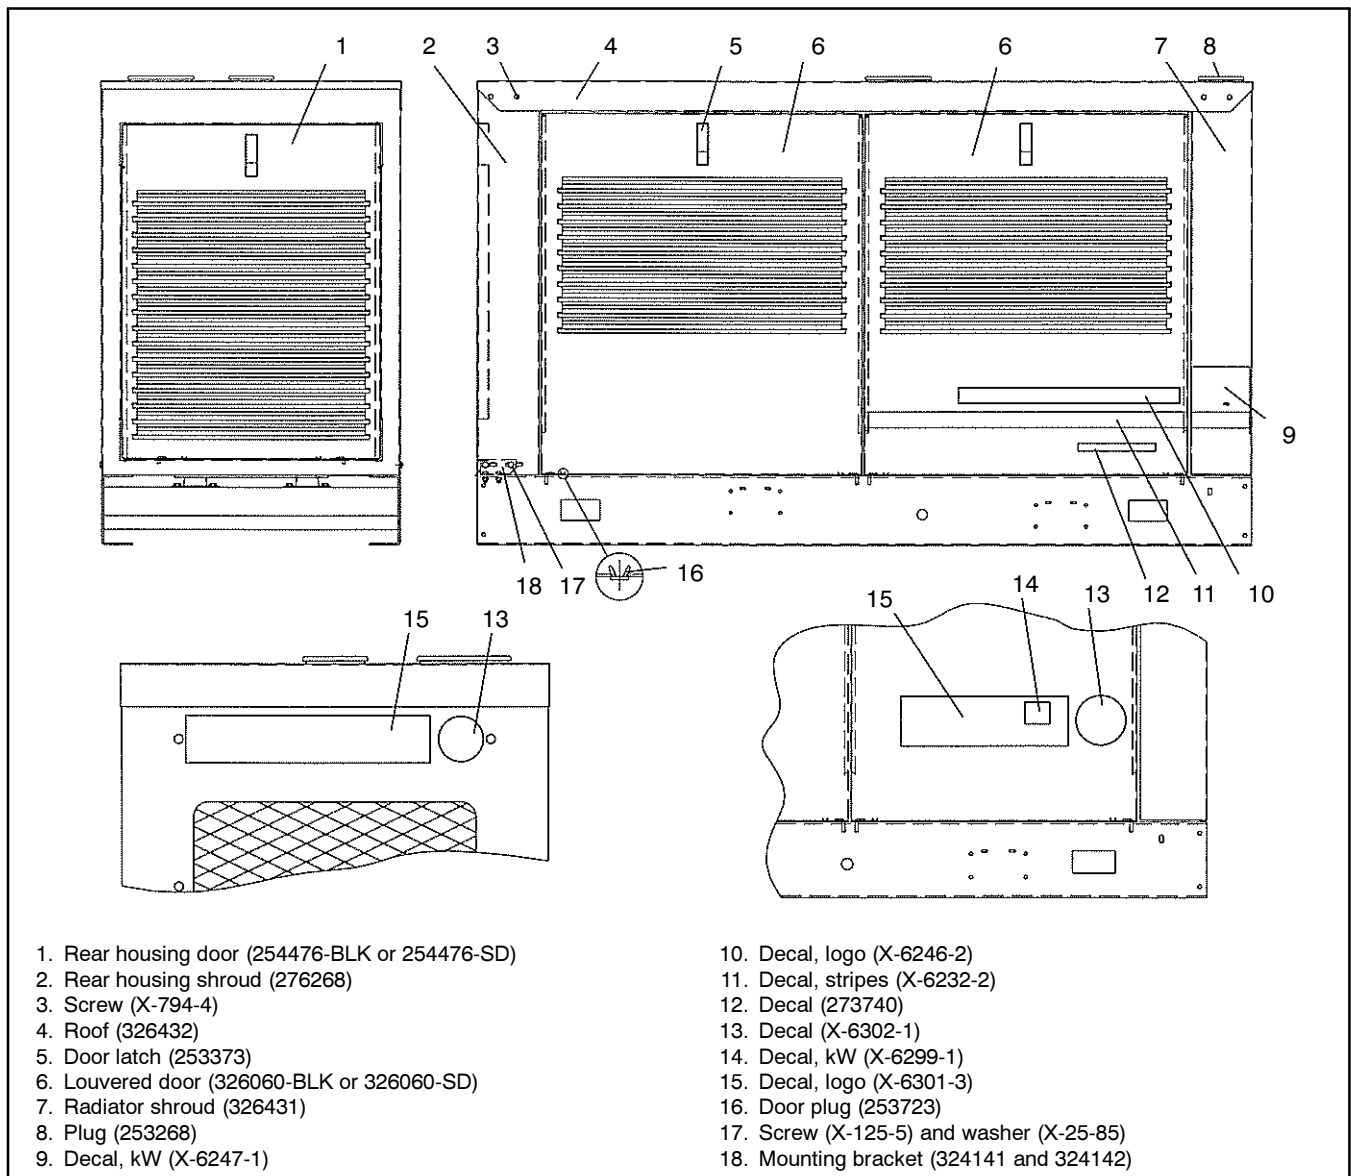

Figure 1 Weather Housing Assembly
4. Refer to the assembly drawing in Figure 1 to identify kit components and their relative positions.
15. Install side doors (326060-BLK or 326060-SD) and back door (254476-BLK or 254476-SD). See Figure 1 for door locations. Secure each door to housing with latch. If doors do not fit, loosen housing support hardware and square unit.
16. Attach decals to a clean dry surface as shown in Figure 1.